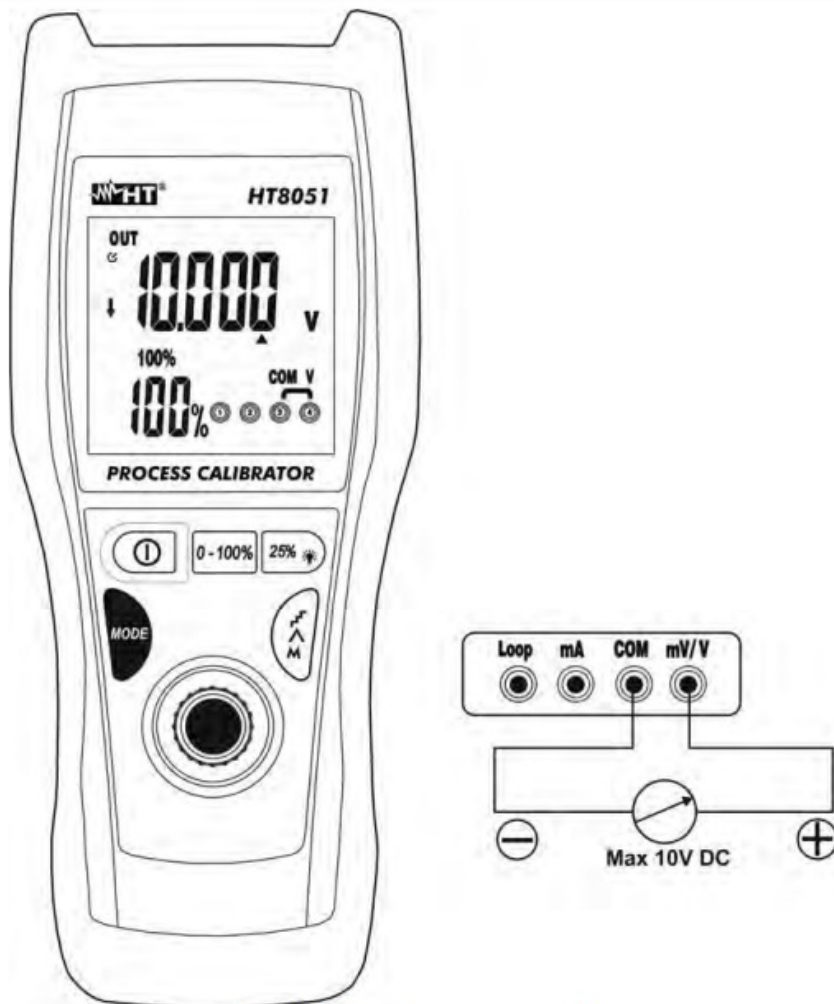

Fig. 4: DC voltage generation
4. Position the green lead and the black lead respectively in the points with positive and negative potential of the external device (see Fig. 4)
5. To generate a negative voltage value, turn the measuring leads in the opposite direction with respect to the connection in Fig. 4